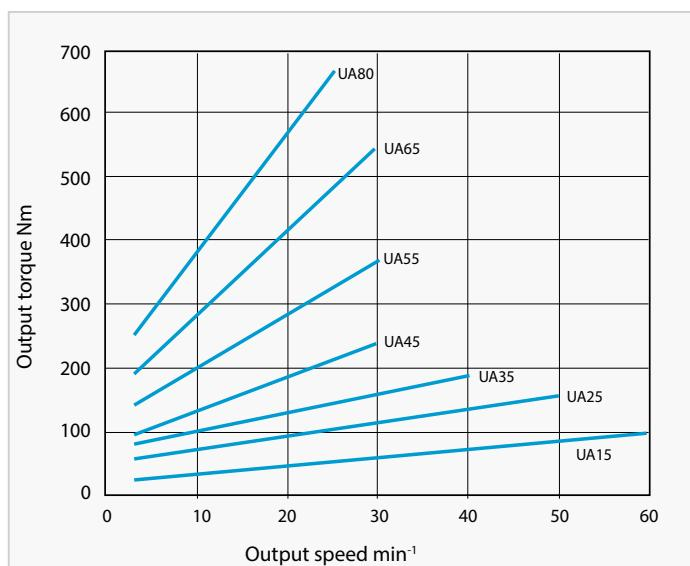

Fig. UA-1 Output side no-load running torque
- Fig. UA-1 shows the average no-load running torque after gearbox is run in (not factory-new condition).